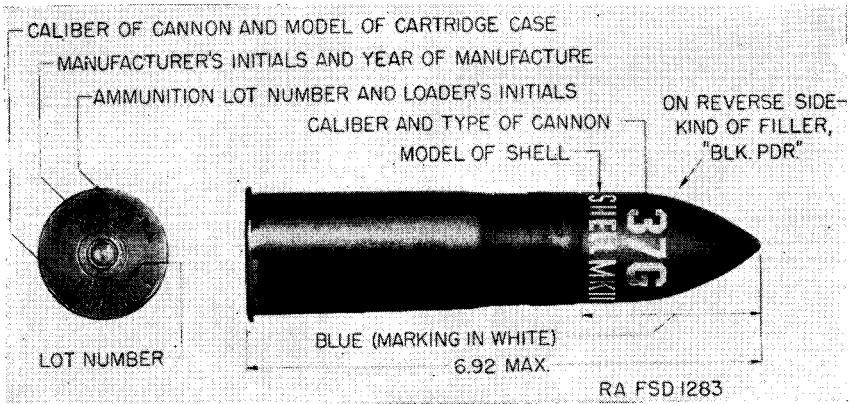

FIGURE 74.—Shell, fixed, practice, Mk. II, with fuze, practice, M38, 37-mm gun, M1916.
**70. Subcaliber.**—*a. General.*—The shell, fixed, practice, Mk. II, with fuze, practice, M38, 37-mm gun, M1916 is authorized for use in the 37-mm gun, M1916, when used for subcaliber purposes with the 75-mm gun, M1897, M1897A2, and M1897A4. This ammunition is issued in the form of fixed complete rounds. The projectile is fitted with a base fuze and contains a low explosive filler of black powder. When used for target practice purposes the low explosive filler serves as a spotting charge. The complete round is shown in figure 74, and may be identified by the marking indicated thereon.